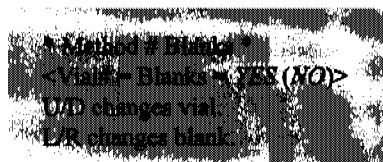

Figure 4.14. Method Blanks menu
6. Scroll to the last menu line **EDIT BLANK VIALS**, and press [Enter]. The Method Blanks menu displays on the screen (Figure 4.14).